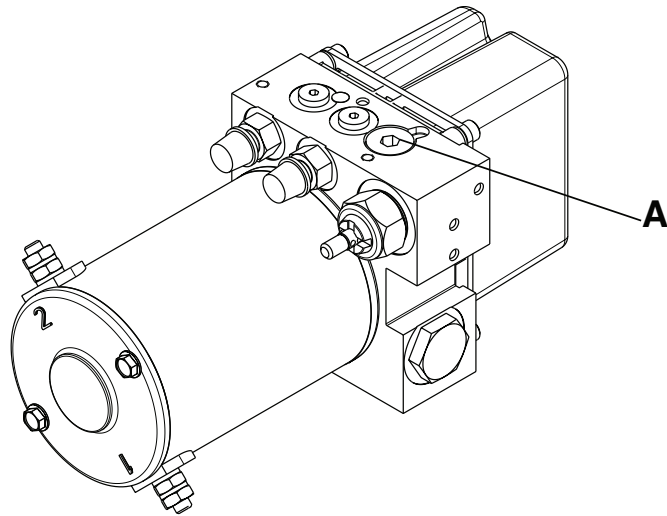

Figure 42 – Hex plug location
4. Using a 1/4" hex wrench, remove the hex plug (A) from the top of the hydraulic manifold assembly (Figure 42). Save the hex plug.